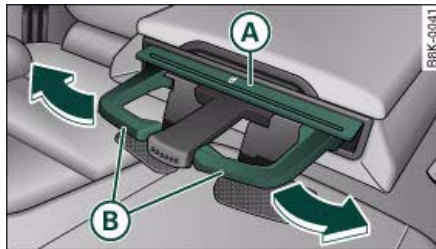

Fig. 94 Cup holder in
- Press the symbol  **A** ⇒ fig. 94.